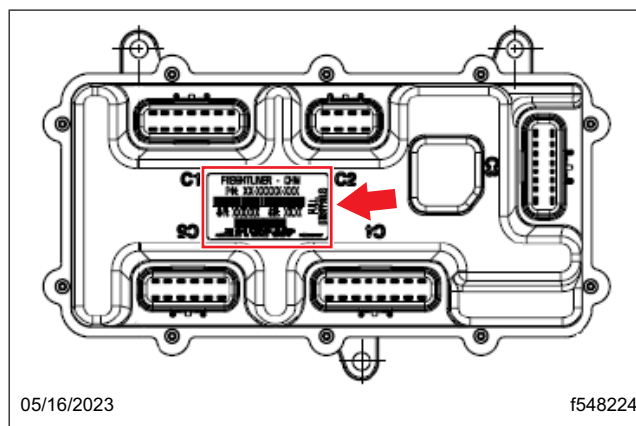

Fig. 1, CHM Label Location
2. Locate the label on the chassis module (CHM), as shown in Fig. 1. Check the CHM part number.